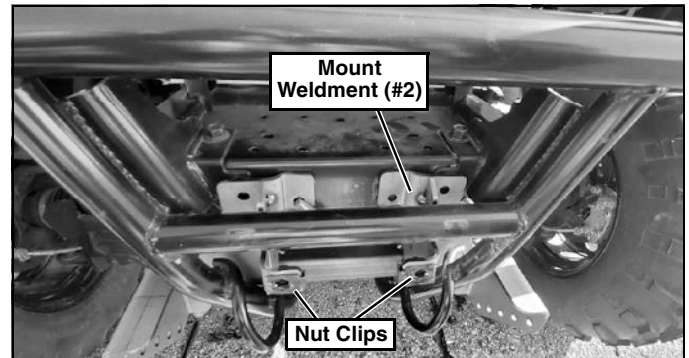

Figure 6
- Slide on the nut clips removed in step 2, onto the Mount Weldment (#2). (See Figure 6.)